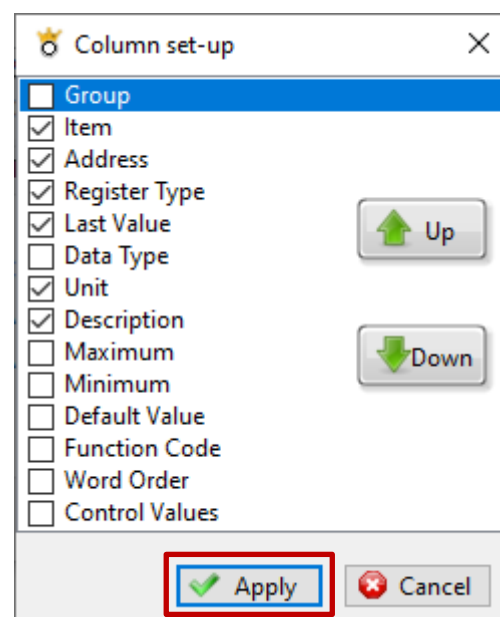

Figure 39: Adjust column order and enable or disable columns.
- **Column order and visibility:** Click the **Settings** button to adjust column order and to enable or disable columns. In the **Column set-up** window (see Figure 39) you may check/uncheck columns and move them up/down to adjust their order.